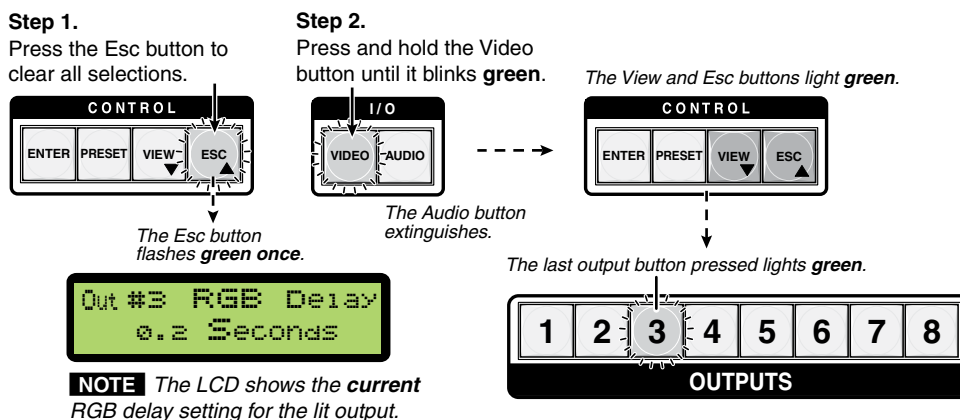

Figure 3-23 — Steps 1 and 2 for viewing RGB delay
2. Press and hold the Video button for 3 seconds, until it flashes **green** and the Audio button extinguishes. The View, Esc, and one output button also lights green (see figure 3-23).
The LCD shows the RGB delay for the indicated (lit) output (see figure 3-23).